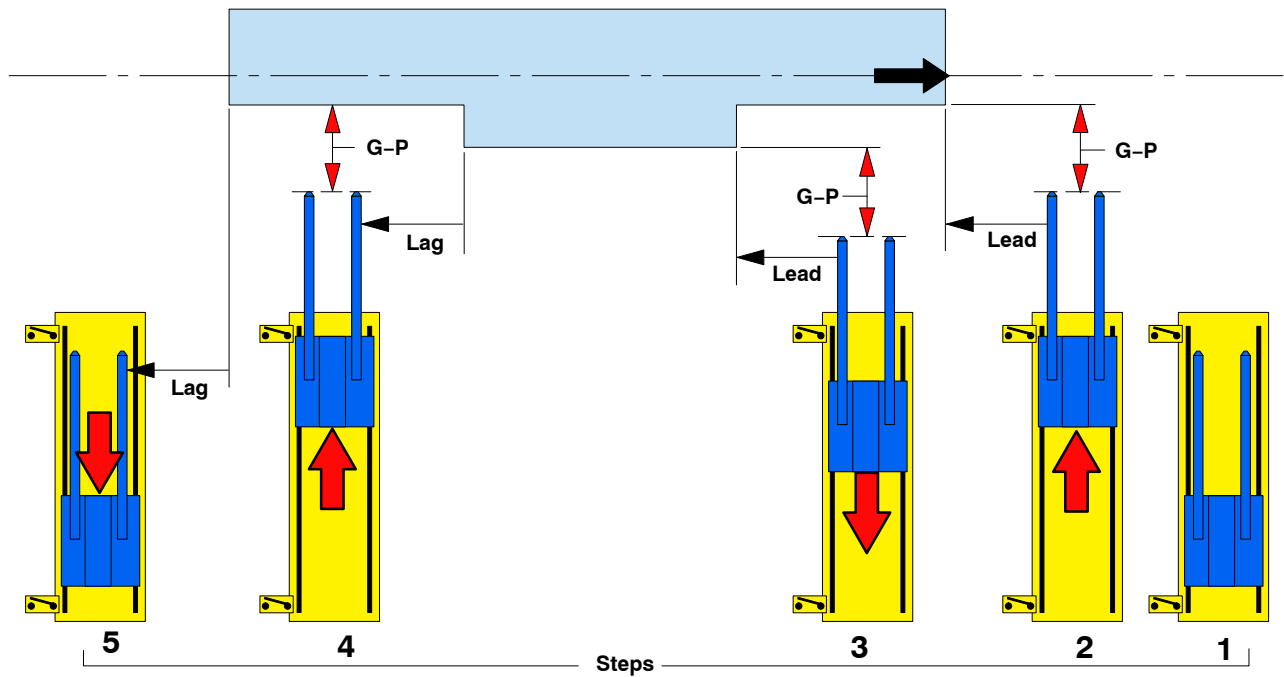

Figure 6-4 Variable Positioning – Lancing and Contouring
1. See Figure 6-4. The positioner waits at the Retract position.